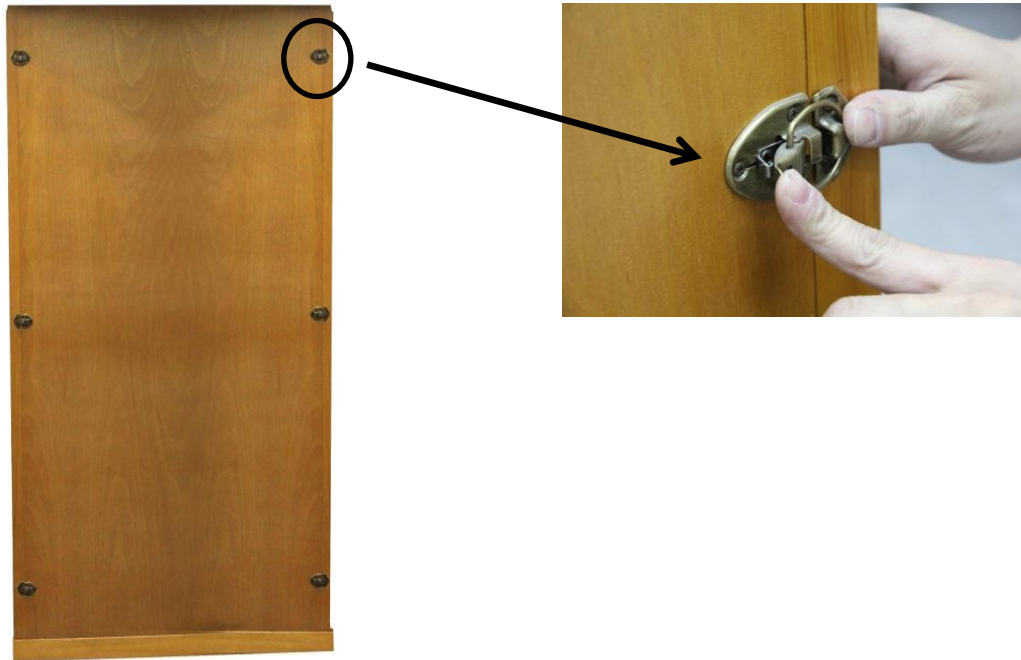

Figure 9
1. Remove the protection paper from the buckles (tape). Place the REAR PANEL onto the FLOOR PANEL. Attach the REAR PANEL to the SIDE PANELS and buckle together. (see Figure 9)